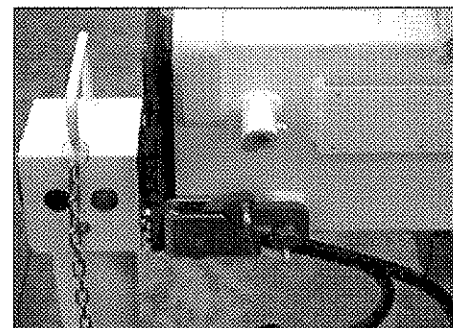

fig. 28
- Disengage the locking devices of the outrigger supports by putting the levers **A** from the position of the fig. 28 to the one of the fig. 28a
Keep hands clear of automatic stop device (lever **A** from the position of the fig. 28a to the one of the fig. 28).
Always check that the outriggers supports, once in their rest position, are locked in their seat by the locking devices, so as to assure the impossibility of accidental movement. (Fig. 28).